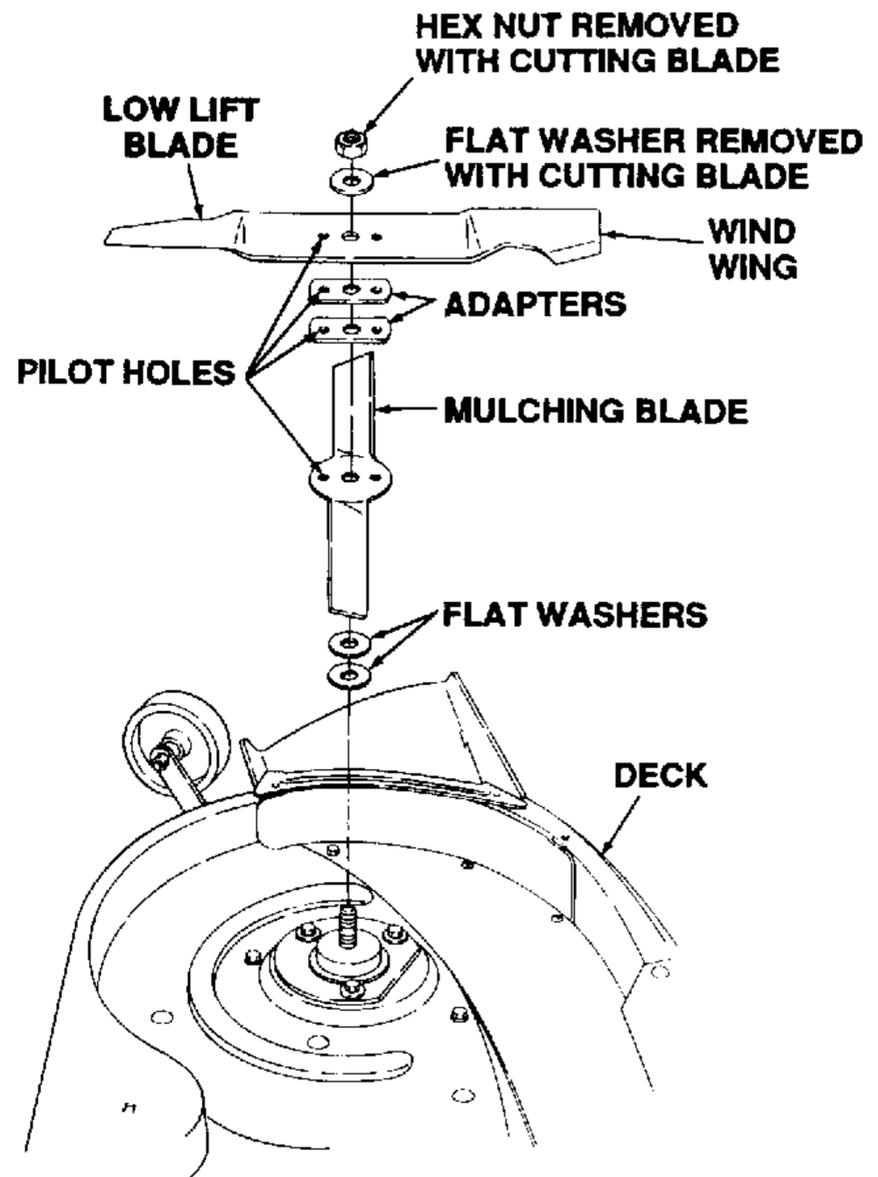

Figure 7-7. Installing Blades and Hardware.
- Assemble the blades and hardware on the spindle shafts as follows (see Fig. 7-7):